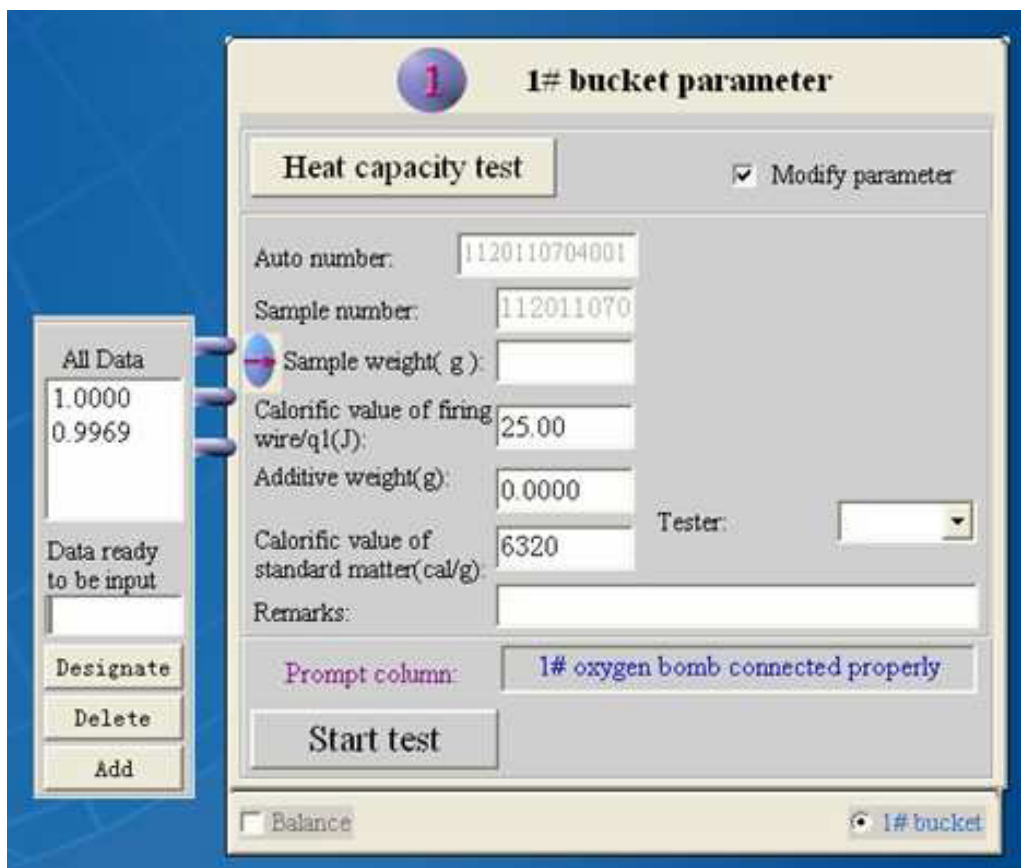

Fig.4-5-1
2. Multi-sample input: After selecting this item and exiting, you can input **multiple samples weight** in advance (shown as Fig. 4-5-1). After the test is finished, the system will automatically transmit current data into the weight input box. When setting the automatic move-down value as 0, the next sample weight needs to be appointed, or else it will move to the next data according to the move-down value.
Select “Multi-sample input” in “System setting”, then exit and return to the main interface. Click the red arrow near the “Sample Weight”, and then the multi-sample input window will be displayed (shown as Fig. 4-5-1). All the function keys are introduced as following: